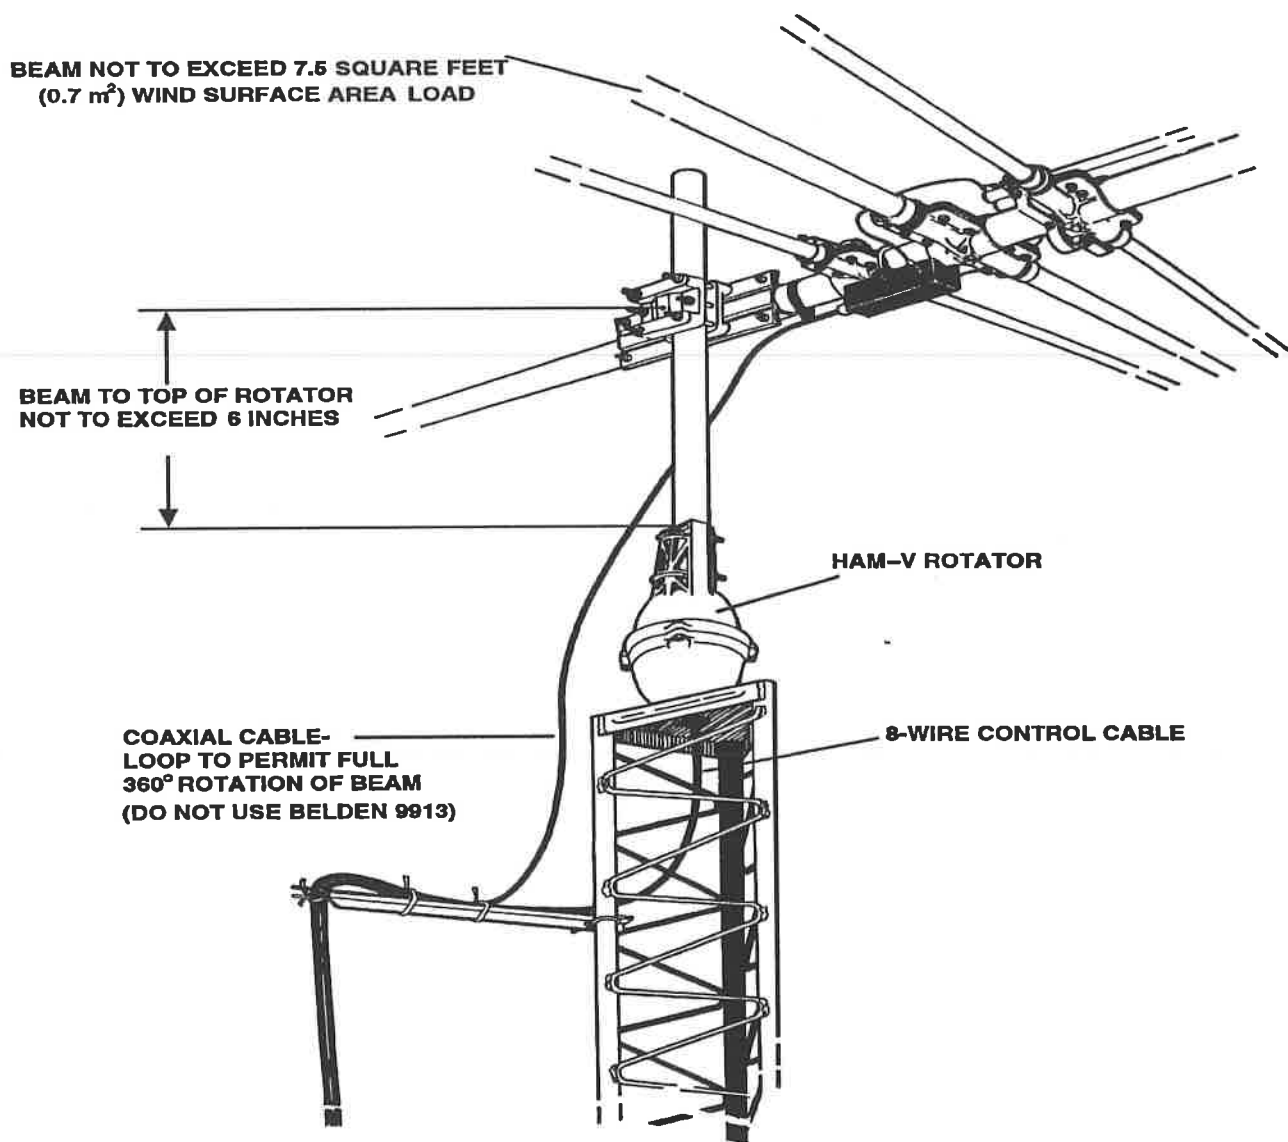

Figure 4
The rotator is mounted to the top surface of a tower, see Figure 4, by means of four (4) bolts furnished in the hardware kit. Use the following procedure:
1. Position the rotator on the top surface of the tower or other support structure and attach by means of four (4) bolts and lockwashers. The top of the tower must be cut out to allow the connecting 8-wire cable with connector to pass through the plate. If a new hole must be made, use the template in the back of this manual. Tighten the four (4) bolts.
3. Assemble the mast to the rotator using the U-bolts, nuts, lockwashers, and clamp plate as shown in Figure 4. Apply a coating of heavy-duty motor oil or grease to the threads of the stainless steel U-bolts to prevent seizing. Tighten all bolts securely.